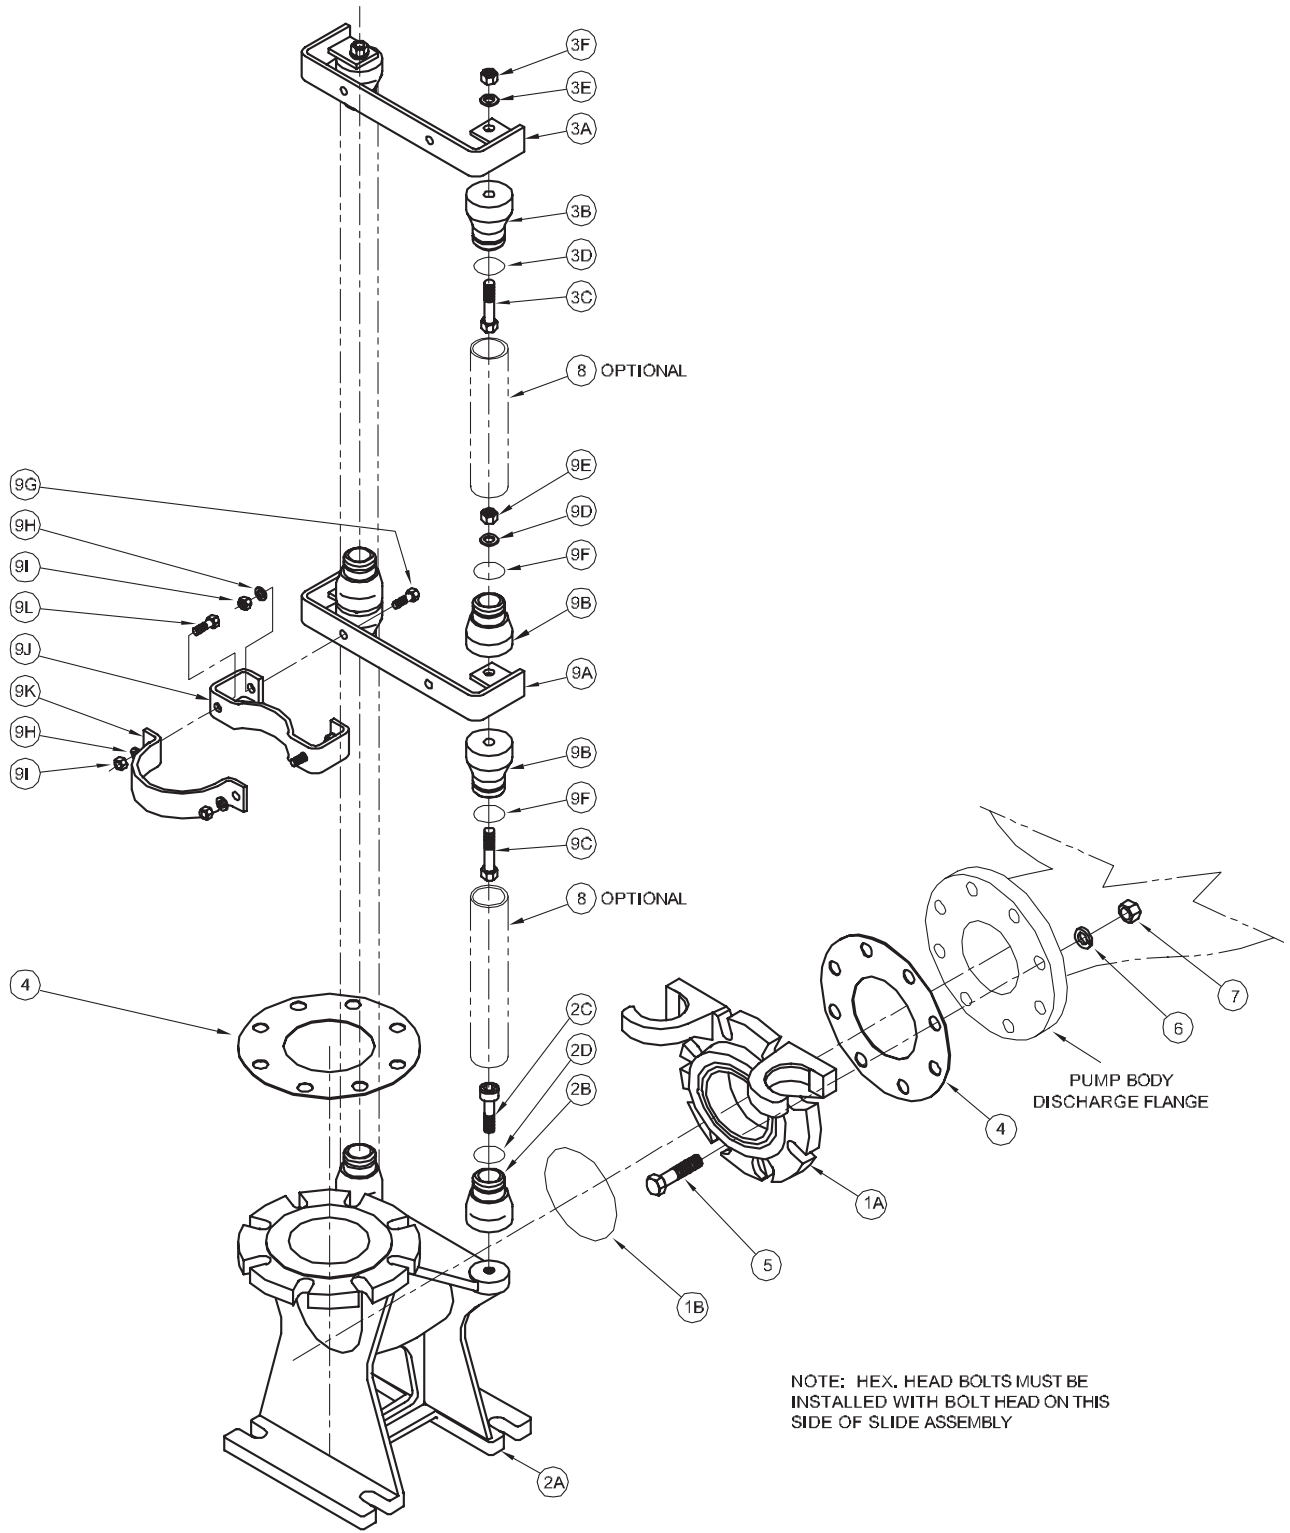

Figure 7
(See Figure 7) These instructions apply to all Deming pumps with a 125 lb. flange horizontal discharge on volute. All parts for standard and non-sparking BAF's are the same except for moveable assembly. BAF-6 standard assemblies use a Cast Iron moveable assembly and BAF-E6 non-sparking assemblies use a bronze moveable assembly. Position one gasket (4) between the moveable assembly (1) comprised of Moveable (1A) and O-Ring (1B) and the pump body discharge flange. Attach the discharge flange to the moveable assembly with 8 hex head bolts (5), 8 split lock washers (6), and 8 hex nuts (7). Torque each bolt to 105/115 ft. lbs.
NOTE: All item numbers in () refer to Figure 7.